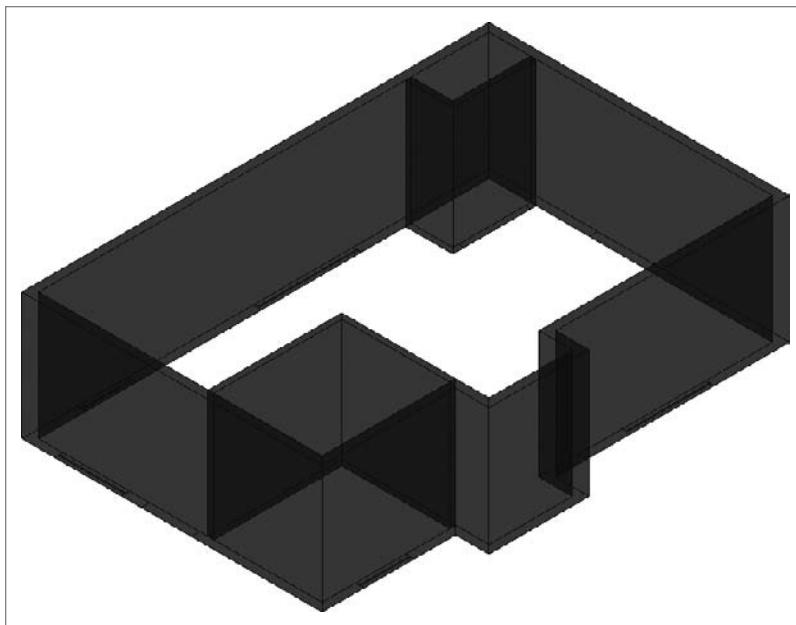

FIGURE 16.14 The cabin with all the walls drawn as polysolids
6. Press the spacebar to restart the command, and then draw the two walls that surround the closet, starting at the endpoint that is farthest from the sliding glass door. Make sure that it is justified properly, and then zoom to the drawing's extents. Your drawing should look similar to Figure 16.14.